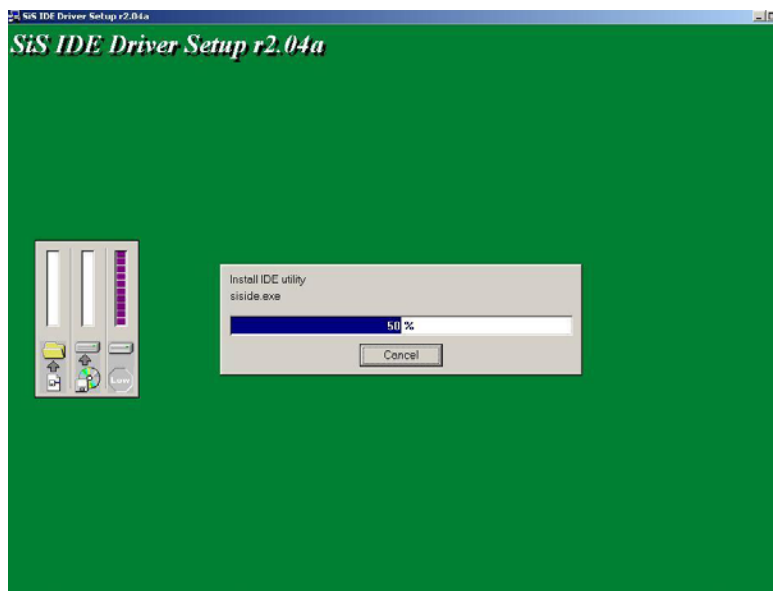

Figure 6-22: Chipset Driver Installation Complete
Step 5: Select an OS and click on the “NEXT” button to initiate driver installation. The installation screen shown in **Figure 6-22** appears.